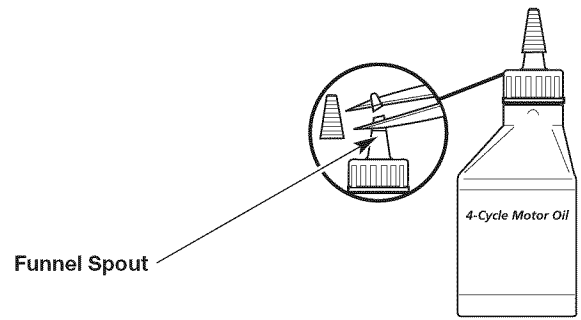

Fig. 7
2. Remove the cap from the oil bottle. Cut the tip off the funnel spout (Fig. 7).